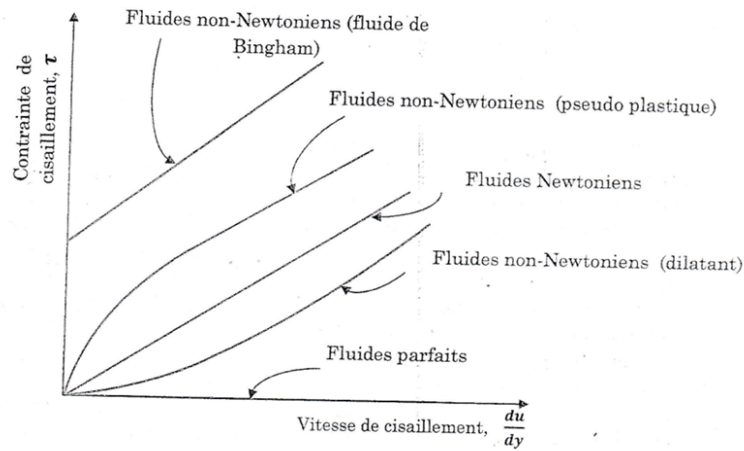

Figure I.5: Variation of shear stress as a function of shear rate for Newtonian and non-Newtonian fluids
- ✓ **Non-Newtonian fluids:** a fluid is said to be non-Newtonian when the viscous stress tensor is not a linear function of the strain rate tensor. There are several types of non-Newtonian fluid (**Figure I.5**):